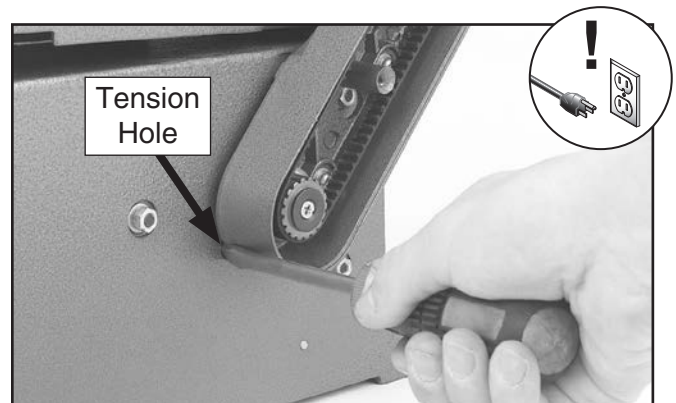

Figure 37. Example of tensioning drive belt.
- Insert screwdriver into tension hole, as shown in **Figure 37**, and pull up against belt housing to tighten drive belt.